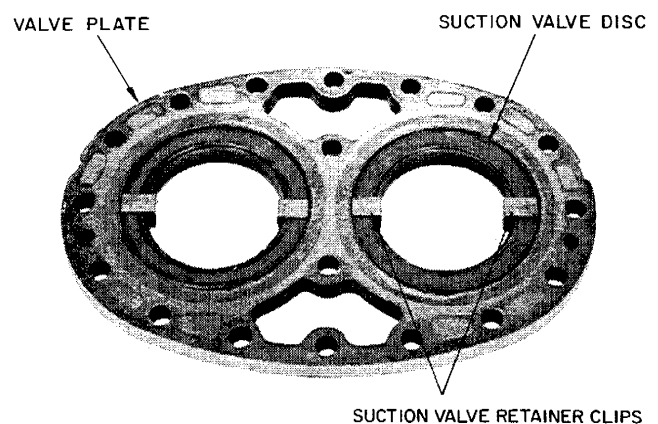

Fig. 33 – Valve Clips in Place
2. Place suction valve disc on valve springs; press disc into valve plate recess. Slide valve retainer clips into place (Fig. 33). Clips must not cover valve lifter springs or pins. Valve retainer clips 5F20-2061 (5F compressors) and 5H40-2061 (5H compressors) are field supplied.